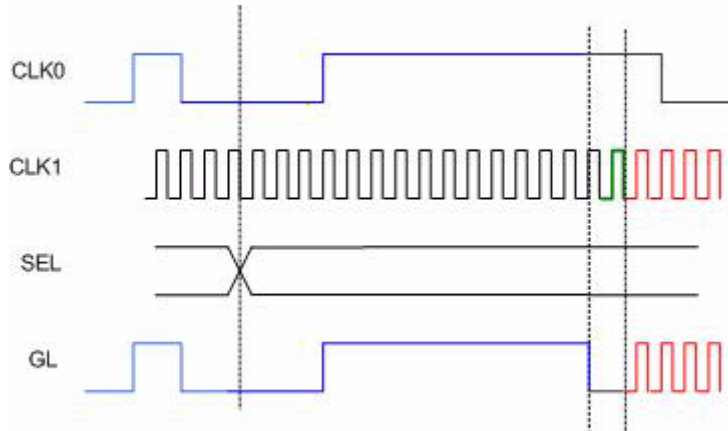

Figure 1-8. Case 2B - Low Frequency CLK0 After SEL Transition, Rising CLK0 Edge Before 7th Rising CLK1 Edge
2. At the 17th CLK1 rising edge, GL will continuously deliver CLK1 signals (as shown in Figure 1-8).